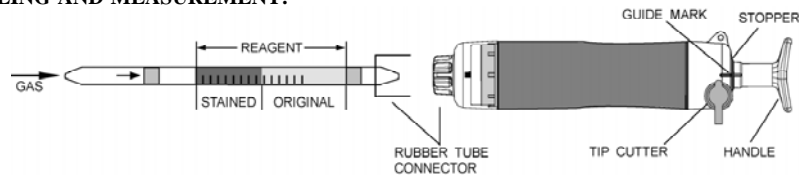

Fig.1
- ① Break both ends of detector tube.
- ② Insert the detector tube into aspirating pump securely as shown in Fig.1. (Arrow mark shall point to the pump.)
- ③ Align the guide marks on the handle and stopper of the aspirating pump.
- ④ Pull the pump handle at full stroke until it locks and wait for 1.5 minutes or until the completion of sampling is confirmed with the flow indicator of the pump (See descriptions about the flow indicator in the instructions of the pump).
- ⑤ On completion of sampling, read the scale at the maximum point of the stained layer.
- ⑥ In case of 2 pump strokes, push the handle once more without removing the detector tube from the pump inlet, turn it right or left 1/4 and repeat step ④ once.
- ⑦ In this case, actual concentration is half of the reading value.
- ① Temperature; Correct the tube reading by following temperature correction table.